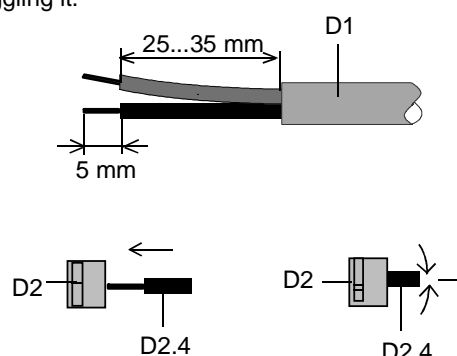

Figure 4: Connecting/disconnecting bus cables
Connecting bus cables (figure 4)
- press the sheathing of the bare ending bus line (figure 4) projecting at least 3mm into the open anchorage (C4). If a further bus line shall be connected pierce the closed anchorage with a screw-driver and
Disconnecting bus cables (figure 4)